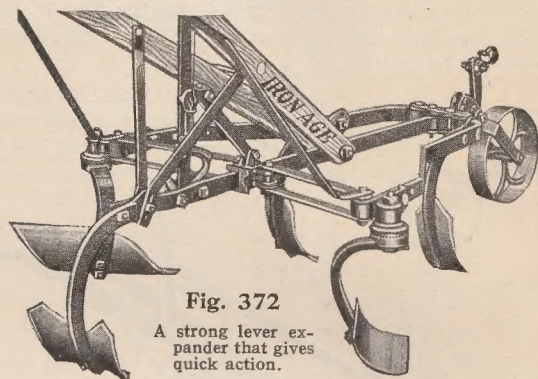

Fig. 372
**Lever expander.** Fig. 372. Changes the tool instantly, while in motion, to any width within range. The bars, lever,